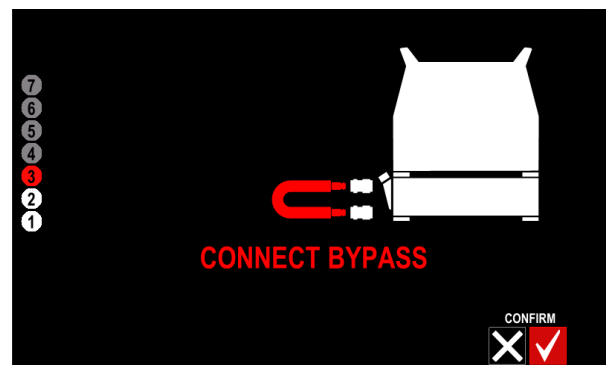

Figure 16
- Connect the short red hose with quick water connectors (BYPASS included with the equipment) to blue and red outlet socket on front of the cooler (Figure 16 or 24). Observe the coolant circuit.